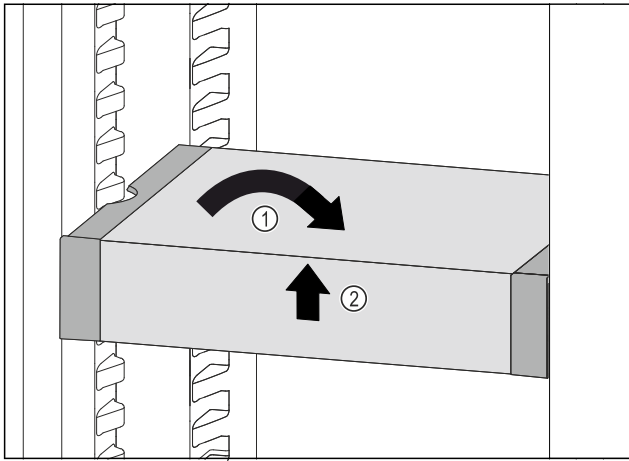

Fig. 72
- ▶ Set VarioSafe straight. Fig. 72 (1)
- ▶ Lift VarioSafe at the front. Fig. 72 (2)